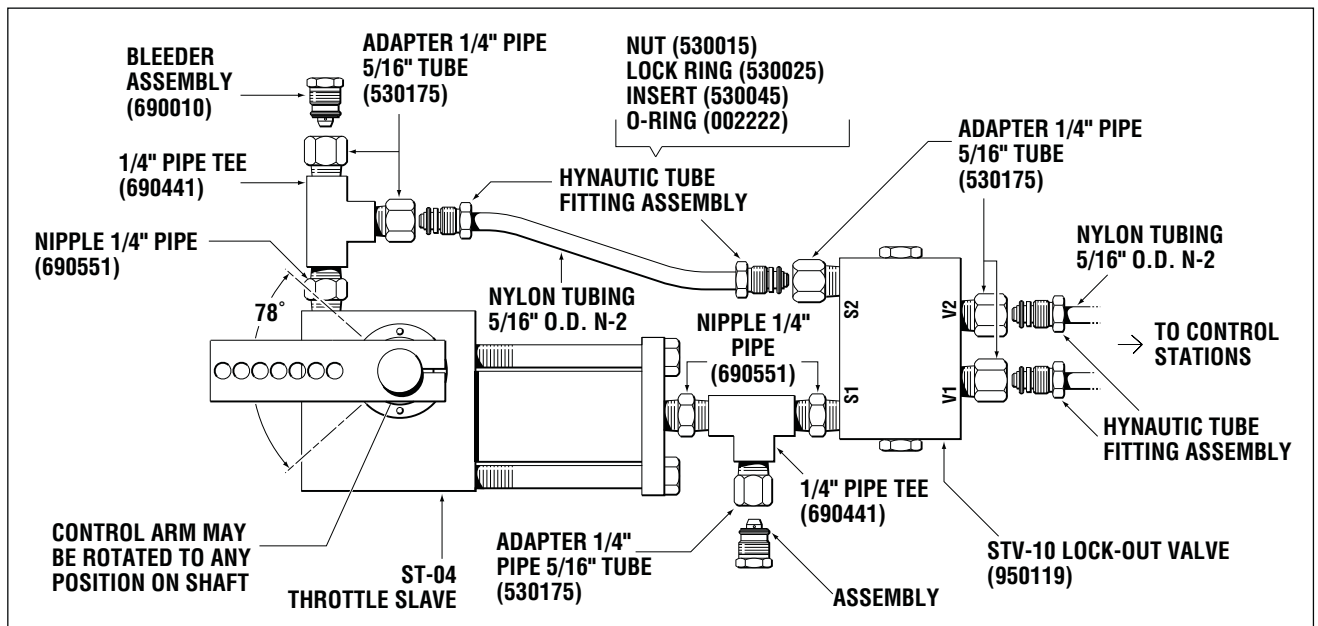

Figure 6. ST-04 Throttle Slave with STV-10 Lock-Out Valve.
*If the throttle slave is in a limited space, it may be removed from the bracket during the lock-out valve installation. The STV-10 Lock Out Valve must be plumbed as shown in Figure 6. The lock-out valve will lock the slaves arm and allow it to be moved by only the sender. The check valve and slave must be mounted in close proximity to one another. If they're not, abnormal locking action and poor performance will result.*
- 10 Install the lock-out valve on the throttle slave and secure it using clean lubricant or Loctite hydraulic sealant on the threads. Install appropriate adapters to accept tubing. Refer to Figure 6.
- 11** Using a short piece of tubing provided, connect the open port on the tee to the S2 port on the lock-out valve. See Figure 6. (See Figure 15 for Copper Tubing connection.) Plug open fittings at the V1 and V2 ports.